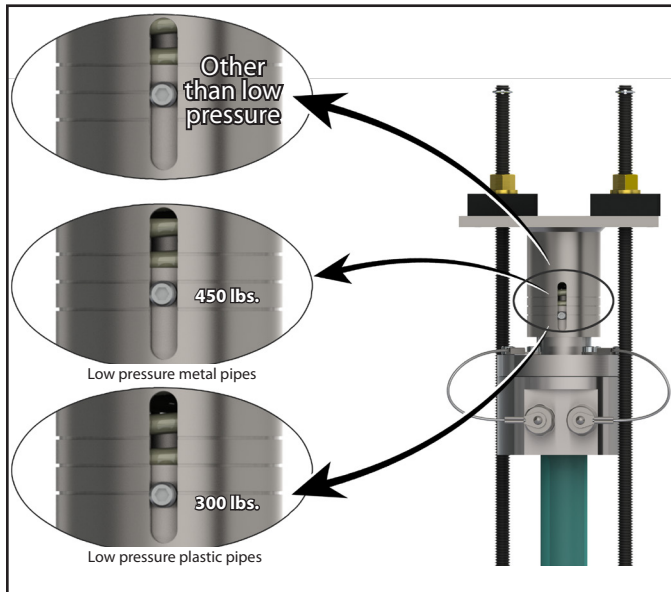

Figure 25. Sensor Load Indicators
A compression load is required to be applied at the top of the sensor forcing the bottom of the sensor to seat firmly against the far wall of the pipe. The amount of load is indicated by the three lines etched into the top plate and the location of the set screw relative to the lines. See Figure 25 and the table below.
1. Rotate the two captive nuts on the top plate simultaneously and evenly until the proper load is indicated by the set screw's relationship to the lines etched on the top plate. See Figure 25.